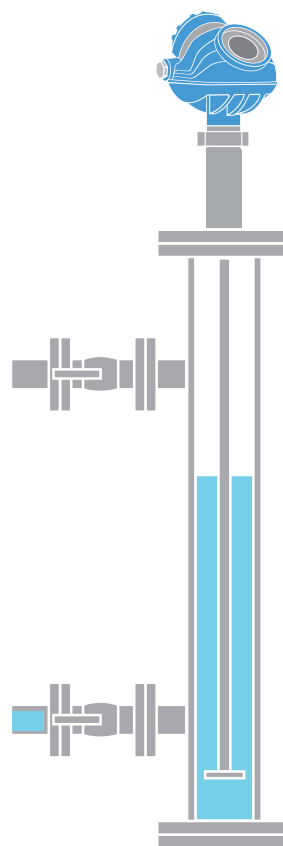

Figure 6.13.3: Insulated chamber
- For hot applications, the chamber should always be insulated to prevent personal injuries and to reduce the amount of energy needed for heating. See figure 6.13.3. It is often an advantage, and sometimes even required, for the radar measurement: